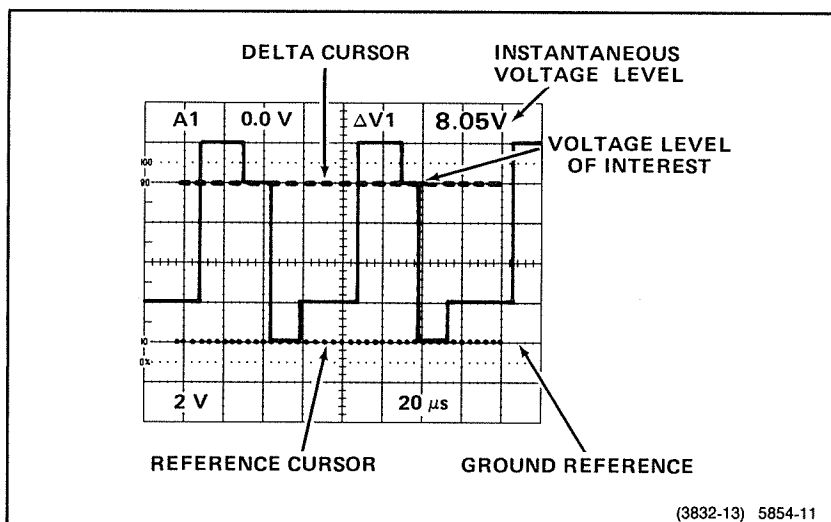

Figure 3-1. Instantaneous voltages.
3. Switch Input Coupling to DC and set the  $\Delta$  cursor to the point of interest. (See Figure 3-1.)